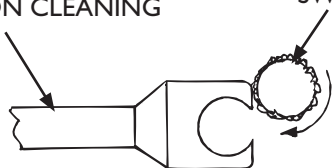

FIG. 1
1. Insert swab into tool by rolling middle of swab into the slot provided. See Fig. 1.